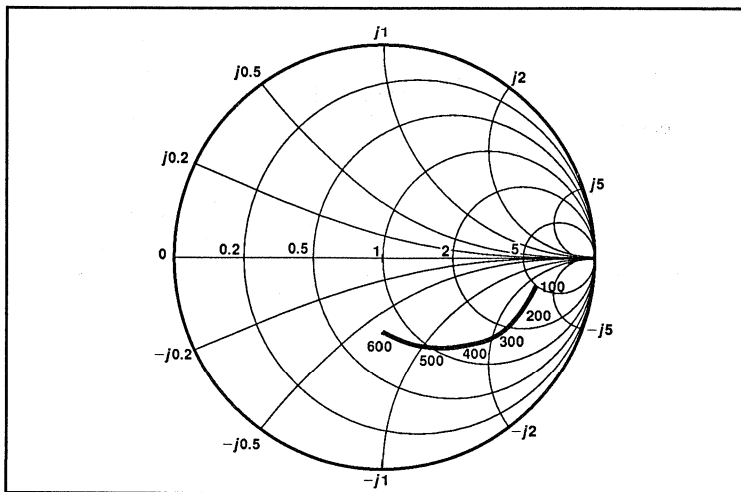

Fig. 4 Typical input impedance. Test conditions: supply voltage = $-5.2V$, ambient temperature = $25^{\circ}C$, frequencies in MHz, Impedances normalised to 50Ω
5. Input impedance is a function of frequency, See Fig. 4.